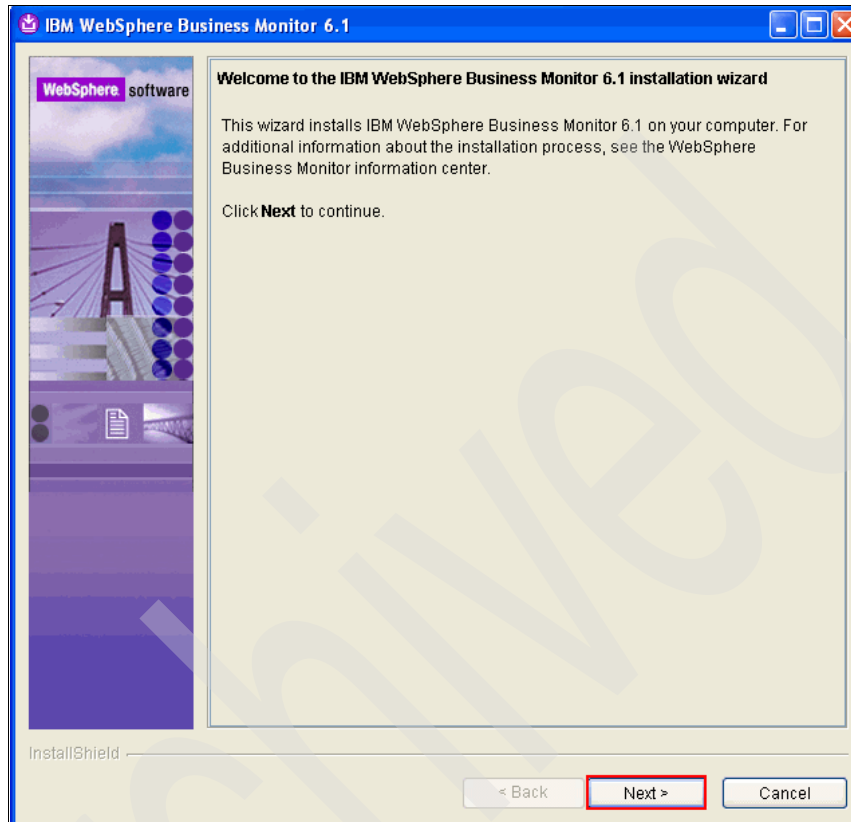

Figure 3-21 Welcome to the IBM WebSphere Business Monitor installation wizard
3. In the Welcome panel (Figure 3-21), click **Next**.